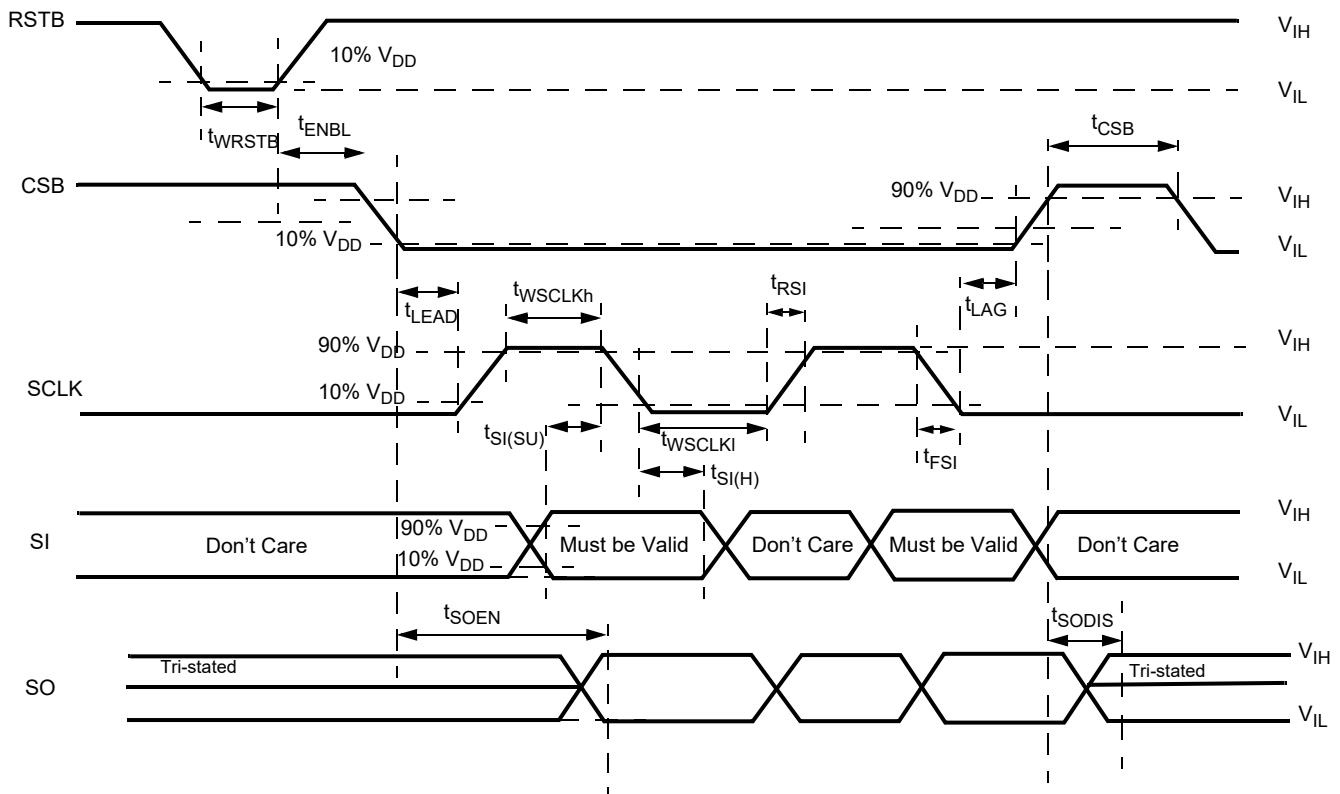
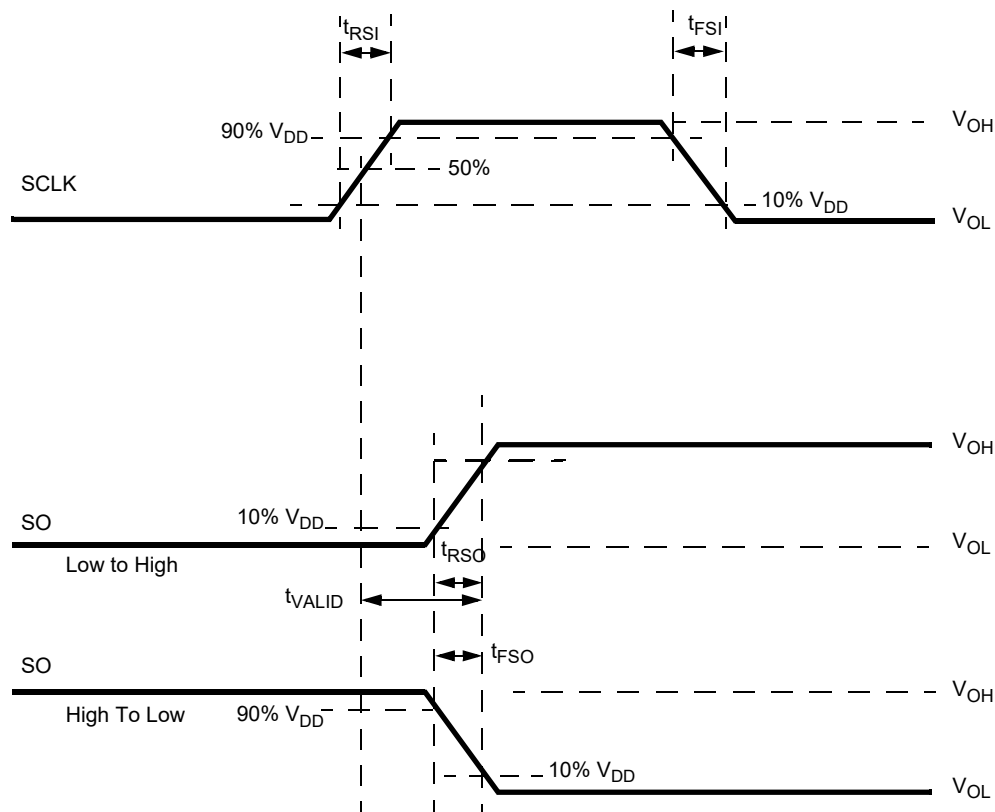

Figure 7. Timing requirements during SPI communication
Figure 8. Timing diagram for serial output (SO) data communication
Data communication over the SPI port is enabled when the CSB pin is in the logic [0] state. Data from the Input Shift registers are locked in the addressed SI registers on the rising edge of CSB. The device transfers the contents of one of the 8 internal registers to the SO register on the falling edge of CSB. The SO output driver is enabled when CSB is logic [0]. CSB should transition from a logic [1] to a logic [0] state only when SCLK is at logic [0] (Figure 7 and Figure 8). CSB is internally pulled up to V_{DD} through I_{UP} .
5.2.10 Serial input (SI)
Serial input (SI) data bits are shifted in at this pin. SI data is read on the falling edge of SCLK. 16-bit data packages are required on the SI pin (see Figure 7), starting with bit D15 (MSB) and ending with D0 (LSB). All the internal device registers are addressed and controlled by a 4-bit address (D9-D12) described in Table 11. Register addresses and function attribution are described in Table 12. The SI pin is internally connected to a pull-down current source, I_{DOWN} .